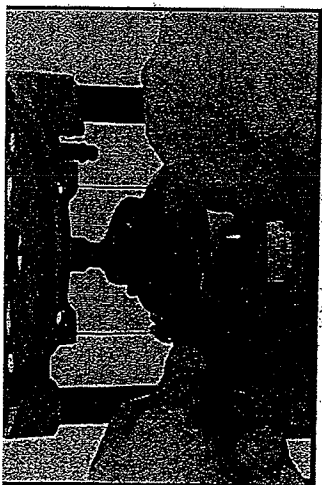

Fig. 8
1. Stand router upside down on its motor cap (see Fig. 8).
3. Place one wrench on flats on chuck and one wrench on collet nut (see Fig. 8). Tighten firmly.